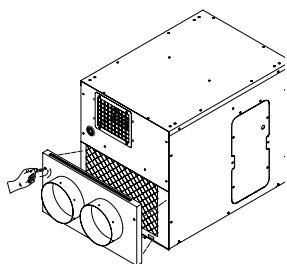

Figure 15 - condenser flange attachment
4. Use screw (enclosed inside of box with condenser flange) to install the flange as shown in Figure 15.